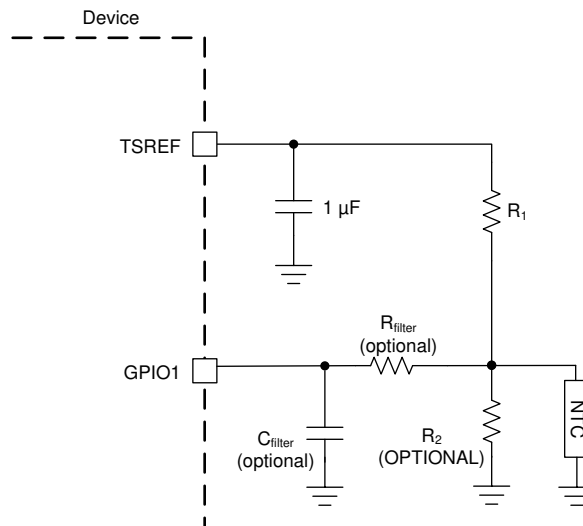

Figure 6-6. Thermistor Connection
Figure 6-6 shows the thermistor circuit when GPIO is enabled for thermistor measurements. MCU ensures TSREF is enabled by setting $CONTROL2[TSREF_EN] = 1$ and settled before taking the measurement value.
- $R1$ is the pull-up resistor as shown in Figure 6-6 with the assumption the $R2$ is not used